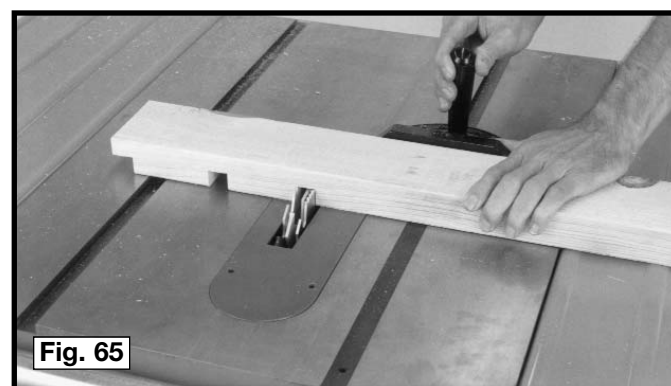

Fig. 65
3. Fig. 65 shows a typical dado operation using the miter gauge as a guide.